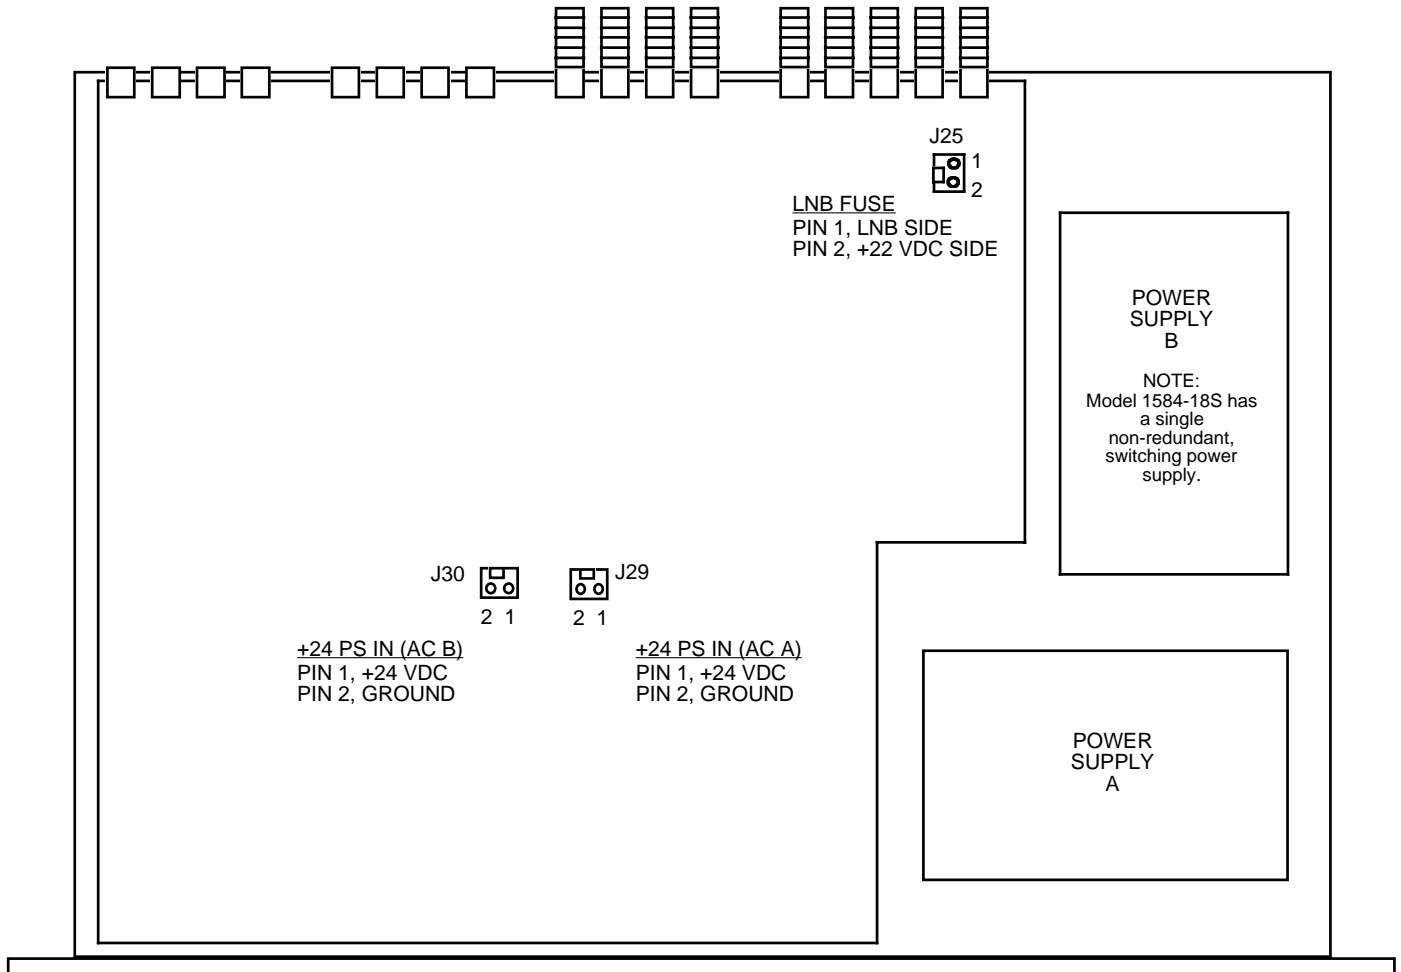

FIGURE 2.0 1584-18/18S MECHANICAL ASSEMBLY
2.1 Mechanical - The 1584-18/18S consists of one RF printed circuit board (PCB) housed in a 1 RU (1.75 inch high) by 12 inch deep chassis. Redundant, switching, +24 VDC power supplies with the DC output diode OR'd provide redundant power for the internal and external amplifiers and LEDs. (Model 1584-18/18S has a single non-redundant, switching power supply). Connectors are type F, female for the RF connections (BNC, female option -B or -D). The 1584-18/18S can be secured to a rack using the 4 holes on the front panel. Figure 2.0 shows how the 1584-18/18S is assembled. J25 connects DC Power to the fuse as shown and J30 and J29 connect the DC voltage from the power supplies to the PCB as shown.